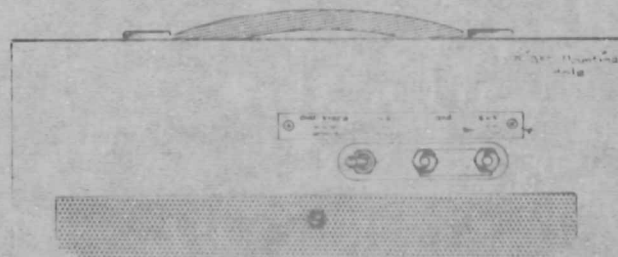

Fig. 7
- () 44. Mount the nomenclature tag (from kit) using the 4-40 x 1/4in. thread-forming screw and the right mounting hole (see Fig.7).